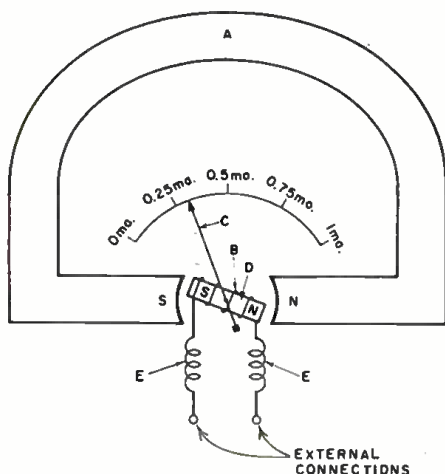

Fig. 1. The working elements, in simplified form, of a basic, moving-coil meter.
The basic meter used in the majority of electronic circuits is of the moving-coil type. Construction, as shown in Fig. 1, generally consists of a permanent magnet (A) and a movable coil (B) of fine wire that actually rotates about a pivot. Attached to the coil is a pointer (C). A core of soft iron (D) is inside the coil, and a set of spiral springs (E) is used to return the coil and pointer to a reference or zero point.